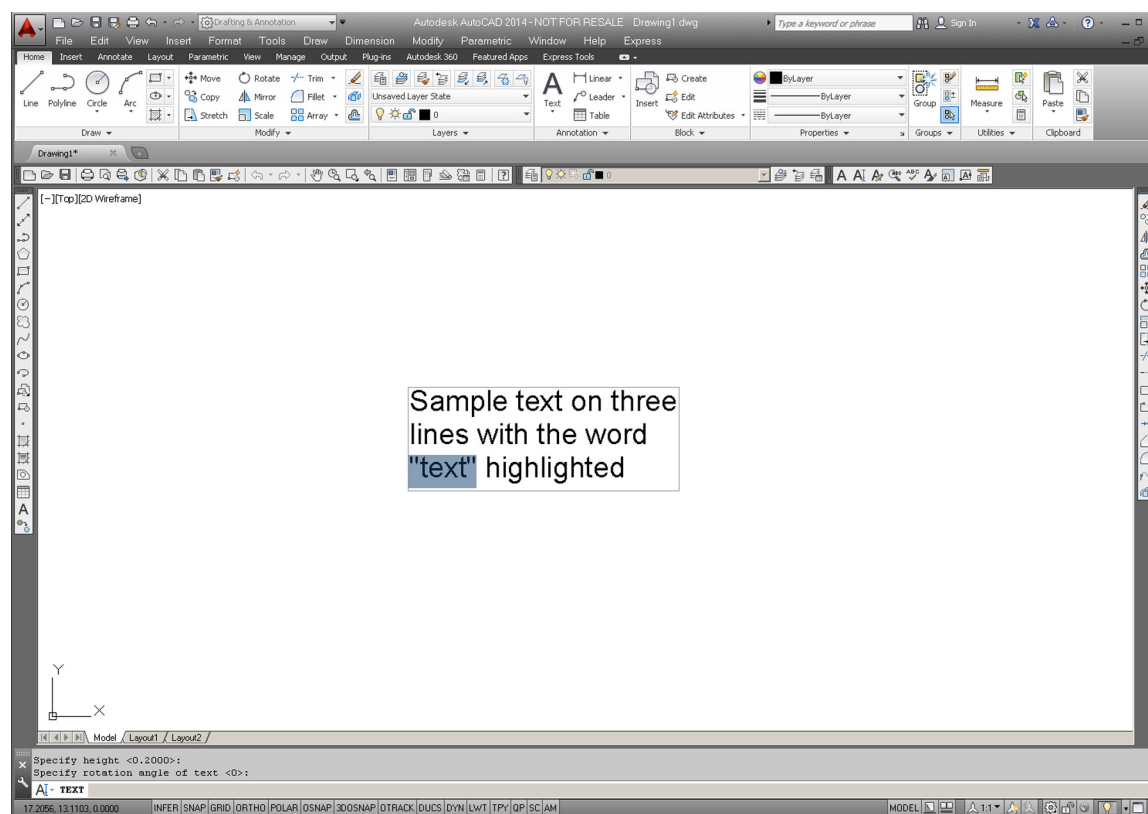

FIGURE 4.2
Step 4. A text field opens up with a blinking cursor. Go ahead and type something, pressing Enter once to go to the next line or twice to finish. Figure 4.2 shows what the basic text looks like. If yours is a different size, you may have to zoom in or out to fit it nicely on the screen.